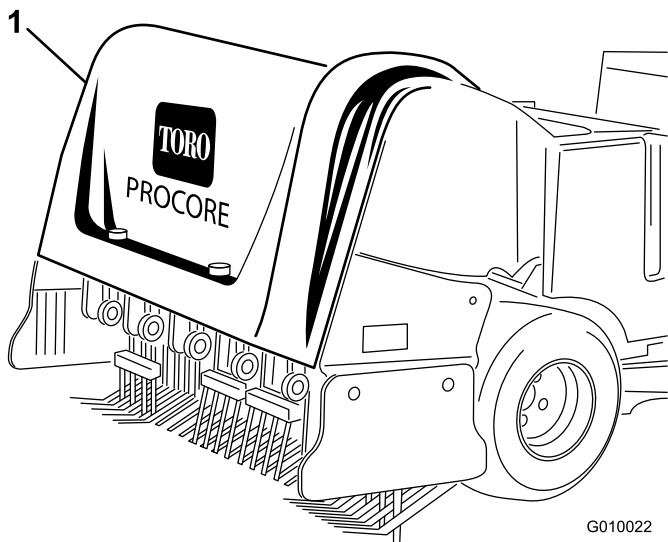
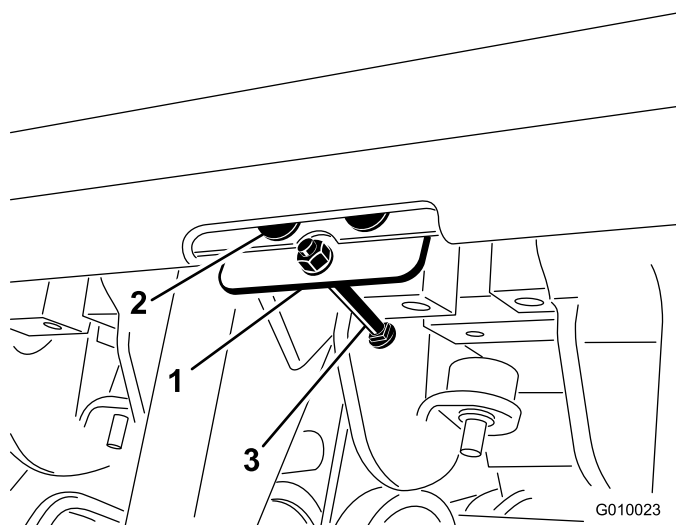

Figure 7
Figure 8
1. Secure the hood plate to the rear hood with 3 pop rivets (Figure 7 and Figure 8).
3. Insert the bolt through the hood plate (Figure 8).
4. Secure the bolt to the hood plate with a locknut (#10) (Figure 8).